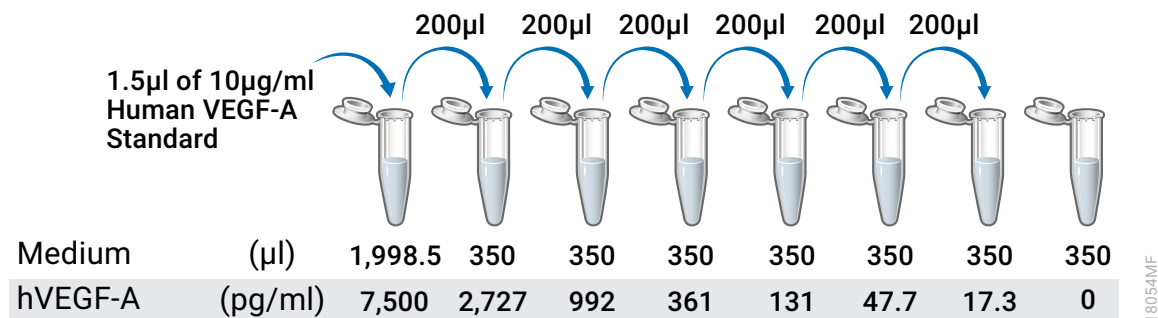

Figure 3. Human VEGF-A dilution series.
3. Prepare an initial concentration of 7,500pg/ml human VEGF-A by diluting Human VEGF-A Standard (10µg/ml) 1:1,333 in prewarmed cell culture medium. For example, prepare 2,000µl of 7,500pg/ml human VEGF-A by adding 1.5µl of the Human VEGF-A Standard stock to 1,998.5µl of culture medium (see Figure 3).